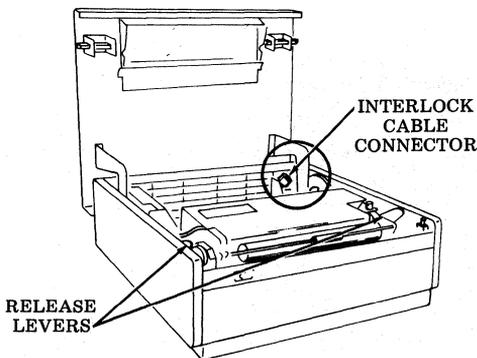

Fig. 1
- (b) Disconnect the interlock cable connector (Fig. 1).
- (d) Release printer and raise to the tilt position by depressing left and right release levers (Fig. 1) and lifting printer.